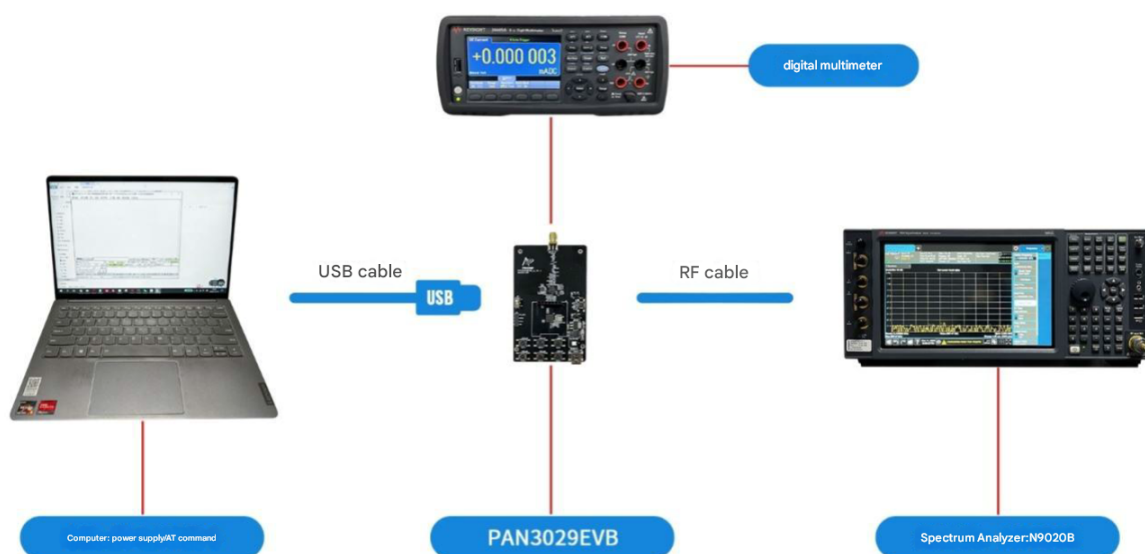

Figure 3-3 Transmit power and current test environment
As shown in Figure 3-3.
1. Set up the environment according to Figure 3-3;